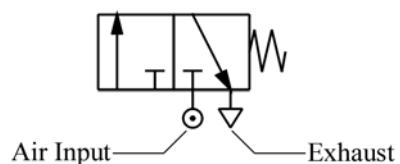

Fig. 17 3/2 directional control valve
3. Arrows "↓ ↘" are used to indicate the flow direction of air current. If the external port is not connected to the internal parts, the symbol "⊤" is used. The symbol "○" underneath the square represents the air input, while the symbol "▽" represents the exhaust. Fig. 17 shows an example of a typical pneumatic valve.